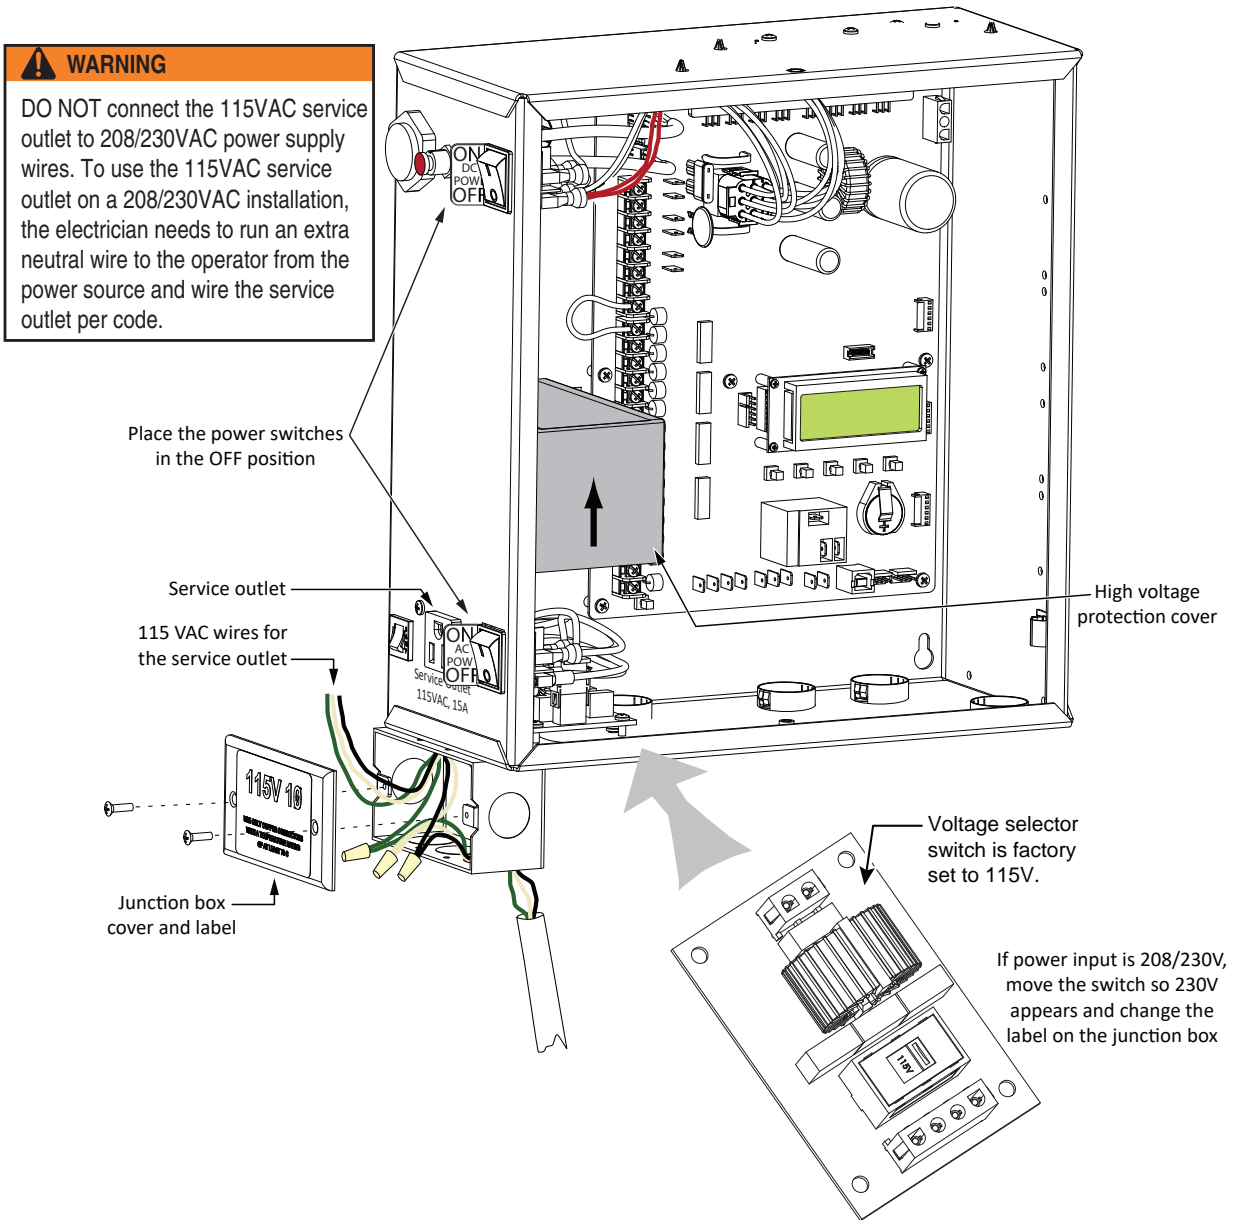

Figure 23. Wiring AC Power
3. Toggle the voltage selector switch from 115V to 230V. Replace the High Voltage cover and secure it. See Figure 23.